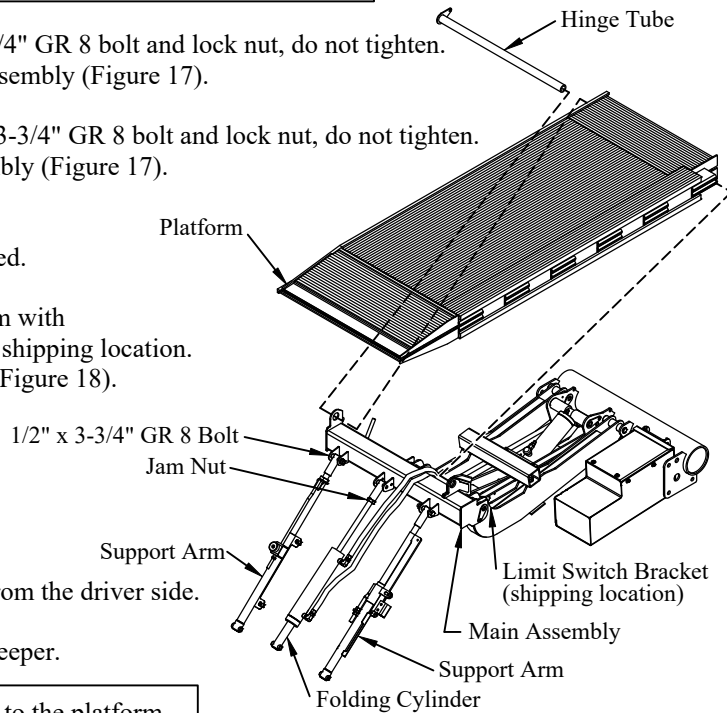

Figure 17: Platform parts location.
1. **Install** the support arms on the main assembly, using a 1/2"x3-3/4" GR 8 bolt and lock nut, do not tighten. The threaded end of the support arm goes toward the main assembly (Figure 17).
2. **Install** the folding cylinder on the main assembly, using a 1/2"x3-3/4" GR 8 bolt and lock nut, do not tighten. The threaded end of the cylinder goes toward the main assembly (Figure 17).